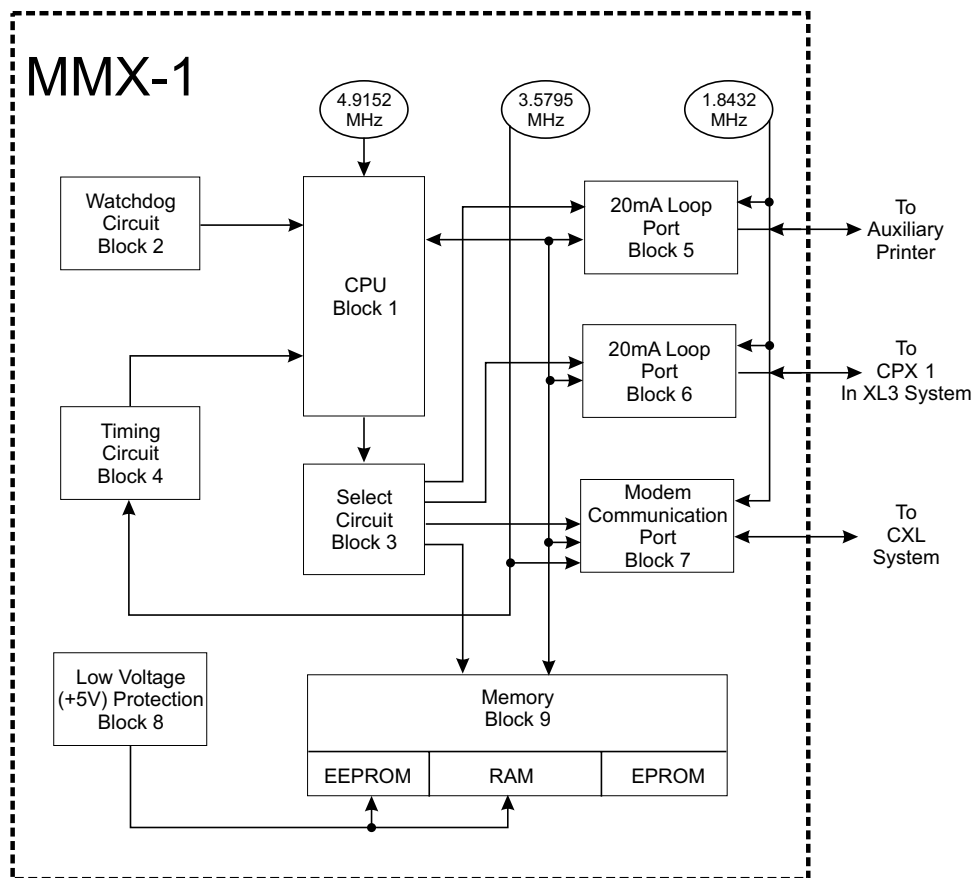

Figure 8
**MMX-1 MODULE** (Refer to Figure 8)